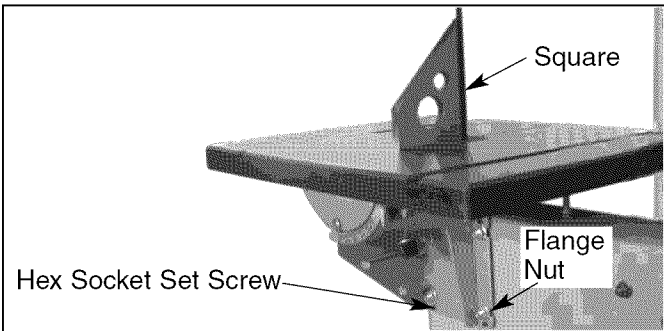

Figure 7 - Square Table Back and Front
- Using a wrench, release the flange nut on the lower table trunnion (see Figure 7).
- Place the M5 Hex "L" wrench on the hex socket set screw and adjust until the table is square to the saw blade on the front and back position (see Figure 7).